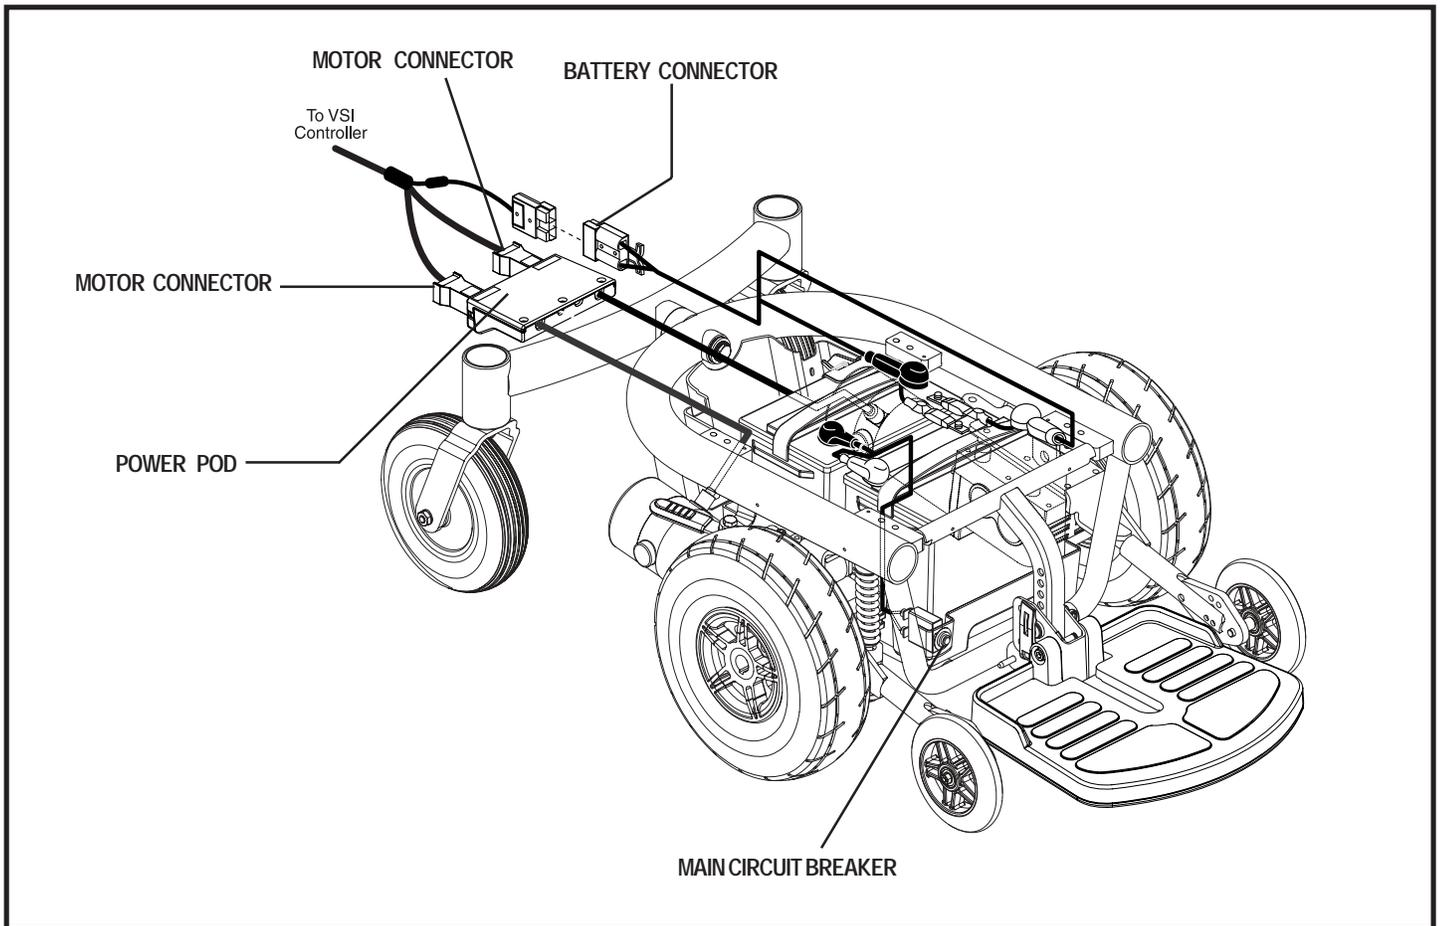

Figure 7. Jazzy 1103 Ultra Electrical Components
The electrical components are located on the power base. The main circuit breaker is located on the front of the battery tray. The charger inhibit and motor connectors are located on the power pod, inside the power base. See figure 7.
8. Plug the controller connectors into the power pod and connect the battery connector. See figure 7.
3. Disconnect the controller connectors from the power pod. See figure 7.